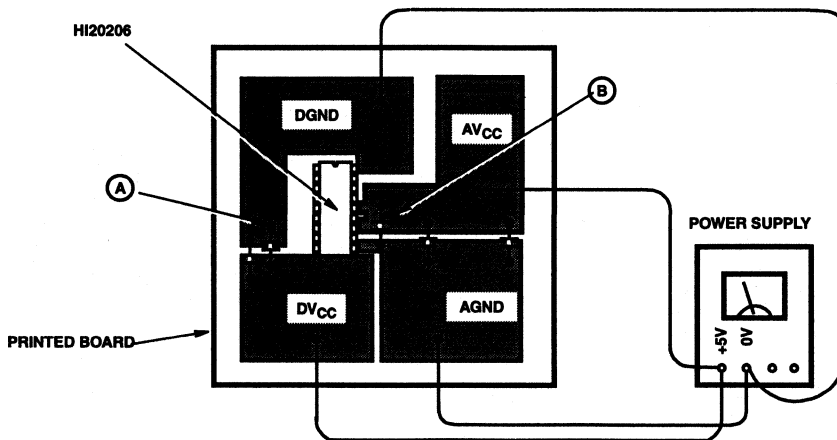

FIGURE 11.
- Insert in parallel a 47 μF tantalum capacitor and a 100pF ceramic capacitor between the V_{CC} surface on the printed board and the nearest ground surface. (A of diagram below). It is also desirable to insert the above between the V_{CC} surface near the pin of the IC and the ground surface (see Figure 11). They are bypass capacitors to prevent bad effects from occurring to the characteristics when the power supply voltage fluctuates due to the clock, etc.